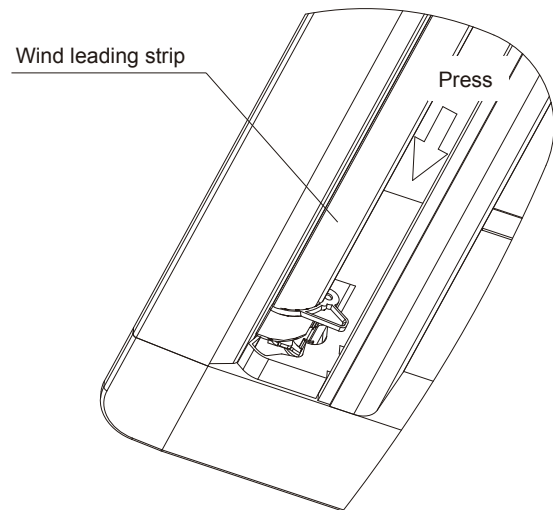

Figure 3.19
- (1) Remove the air deflector. Make sure that the air deflector is level, press one end of the air deflector at where the buckle is, and the buckles in the middle and at the other side will also fall off. Remove the air deflector as shown in Figure 3-19.